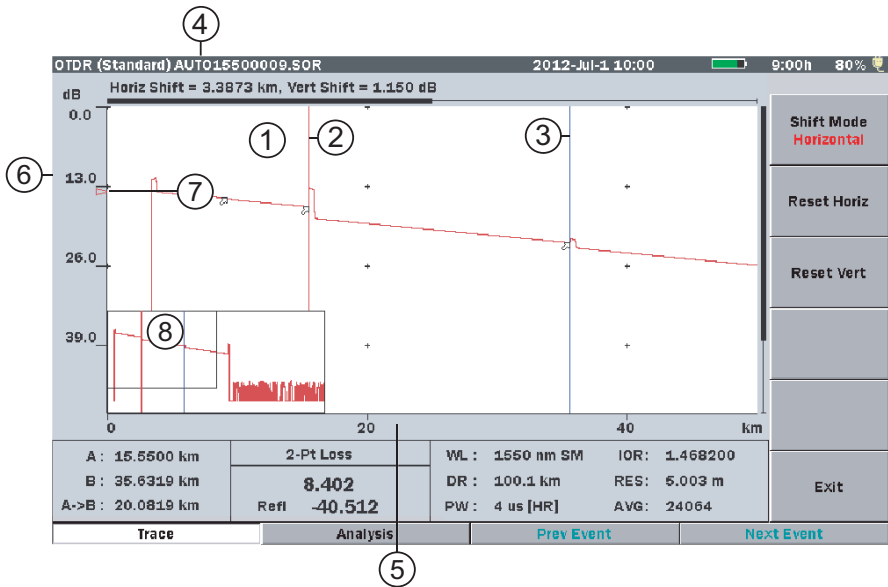

Figure 4-11: Trace Graph – OTDR (Standard) Mode
The Trace Waveform (or Trace) is the downward sloping line going from left to right that connects the data points collected during a test. See item 1 in Figure 4-11.
The cursors (see items 2 and 3 in Figure 4-11 on page 4-33) are the two vertical lines that extend from the top to the bottom of the trace graph. The cursors allow you to extract power and distance information from the trace graph. The active cursor is displayed in red and the inactive cursor is displayed in blue.
These values (see item 4 Figure 4-11 on page 4-33) in are only displayed when some type of shift is in use.
The vertical axis scale (see item 6 in Figure 4-11 on page 4-33) is located on the left side of the trace graph and is expressed in dBs, while the horizontal axis scale (see item 5 in Figure 4-11) is located at the bottom of the trace graph and is expressed in the distance unit as set on the Preferences screen. See “Distance display Units” on page 4-4 for details.
The dB level indicator (see item 7 in Figure 4-11 on page 4-33) denotes the intersection of the active cursor and the trace level.